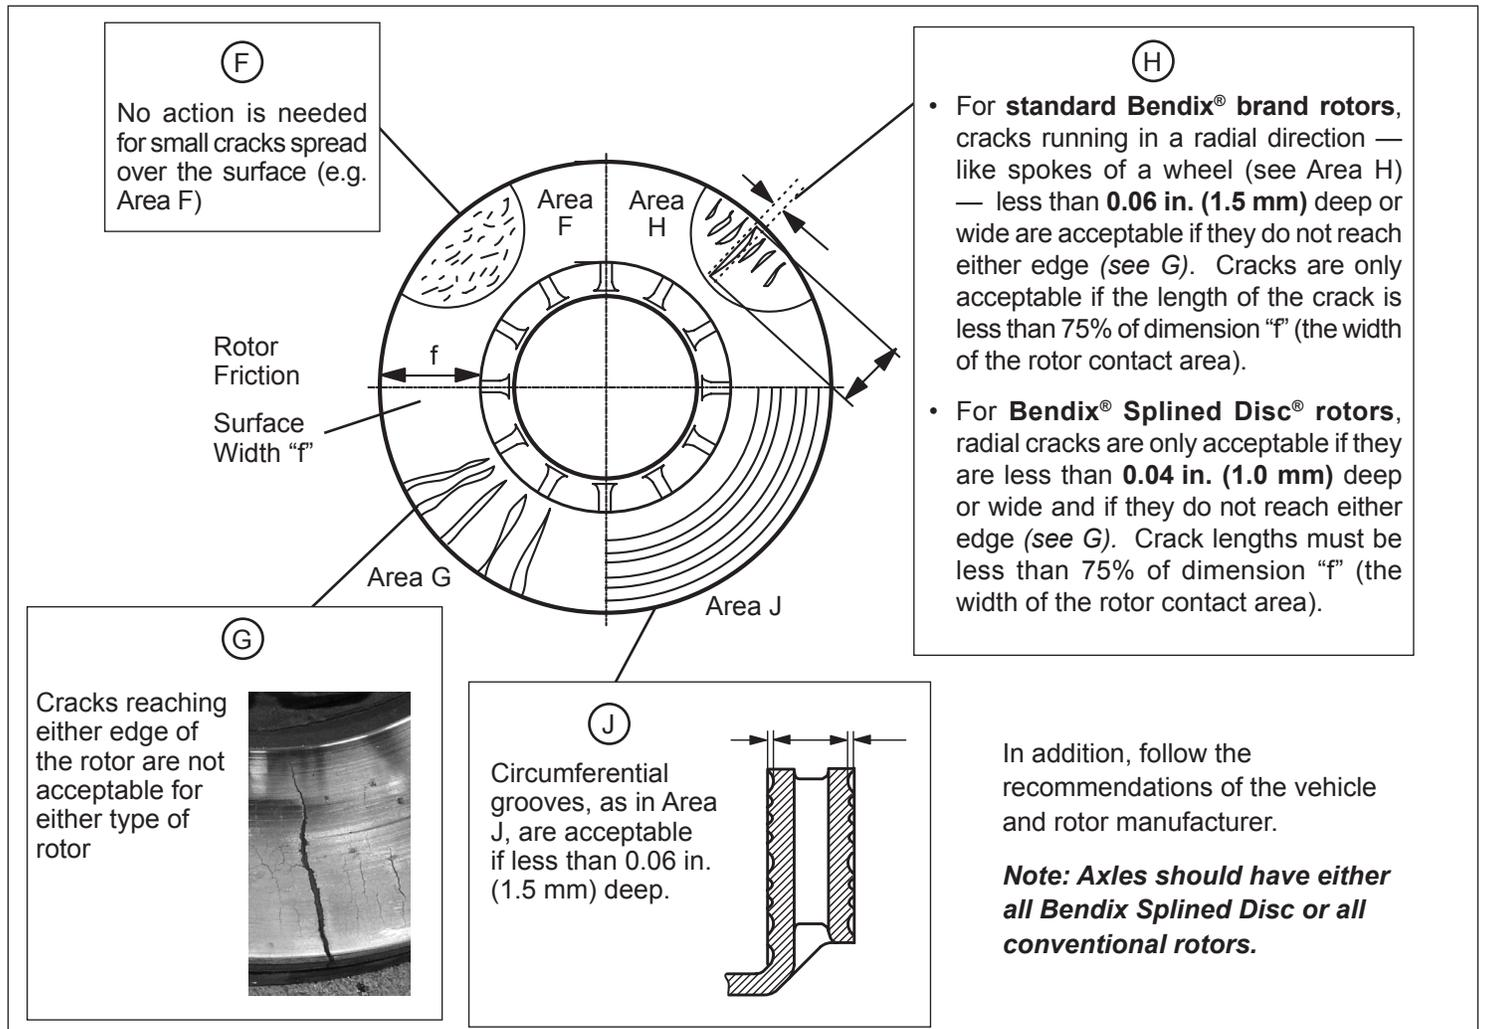

Figure 5 – Examples of Acceptable and Non-acceptable Rotor Conditions
3. Check the rotor for grooves and cracks (see *Figure 5*).
Where the surface conditions are found to be in the acceptable range (as indicated in Figure 5), the rotor is still usable until reaching the minimum acceptable thickness of 1.46 in. (37 mm).